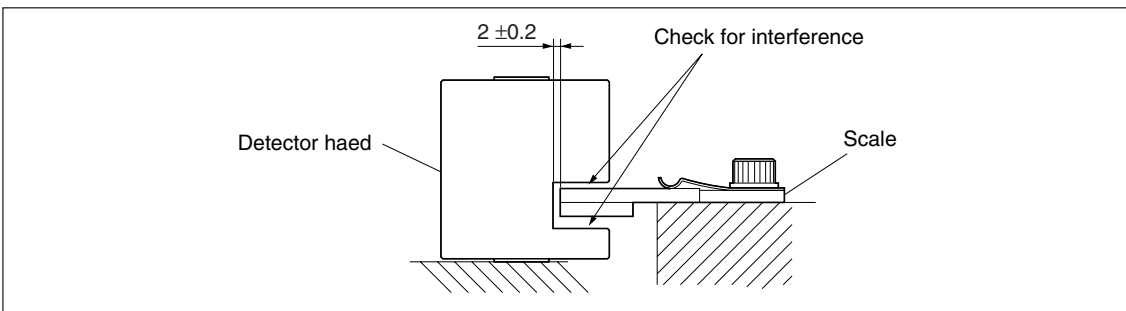

Fig. 3-19
- 4 Check that there is no interference between the scale and detector head, and make sure that there is a gap of 2 ± 0.2 mm as shown in Fig. 3-19.